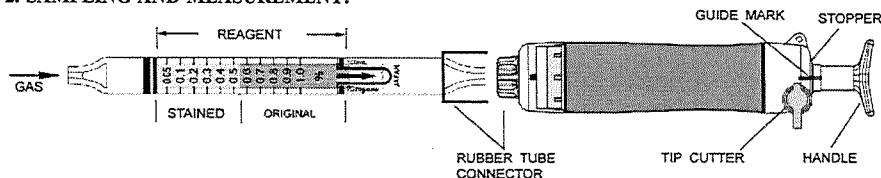

Fig.1
- ② Insert the detector tube into the aspirating pump securely as shown in Fig.1. (Arrow mark shall point to the pump.)
- ③ Align the guide marks on the shaft and stopper of the aspirating pump.
- ④ Pull the pump handle at a full stroke until it locks and wait for 5 minutes or until the completion of sampling is confirmed with the flow indicator of the pump. (See descriptions about the flow indicator in the instruction manual of the pump.)
- ⑤ On completion of sampling, read the scale at the maximum point of the stained layer.
- ⑥ When the concentration is below the scale range, 2 pump strokes can be used to determine concentrations of 0.021 to 0.42%. Then multiply the reading value by 0.42 after temperature correction.